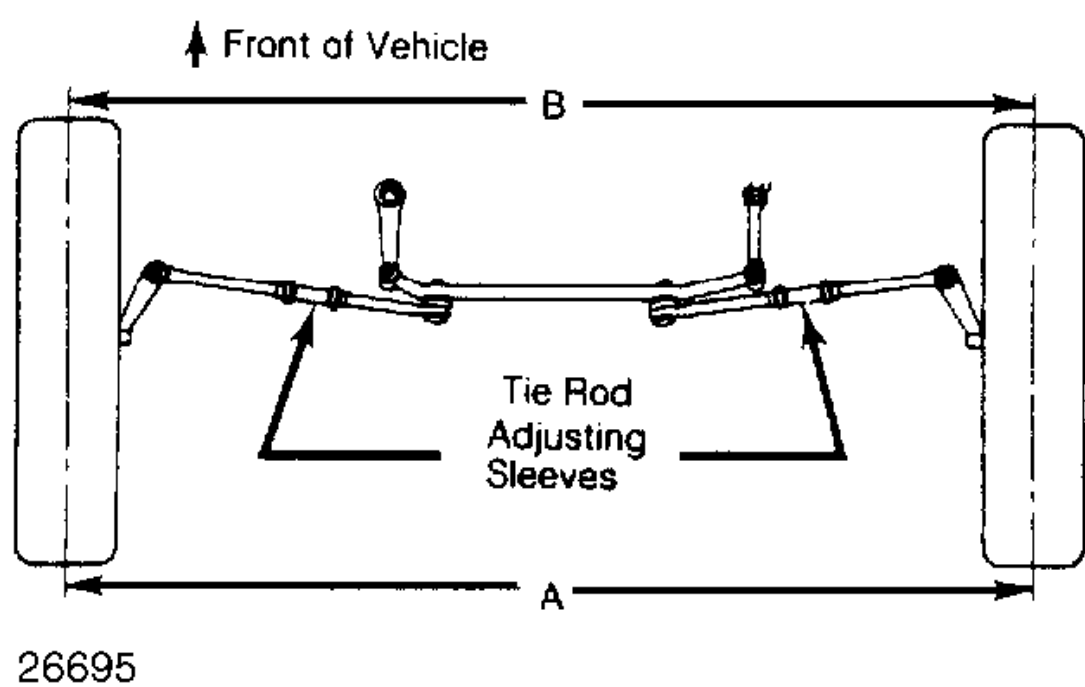
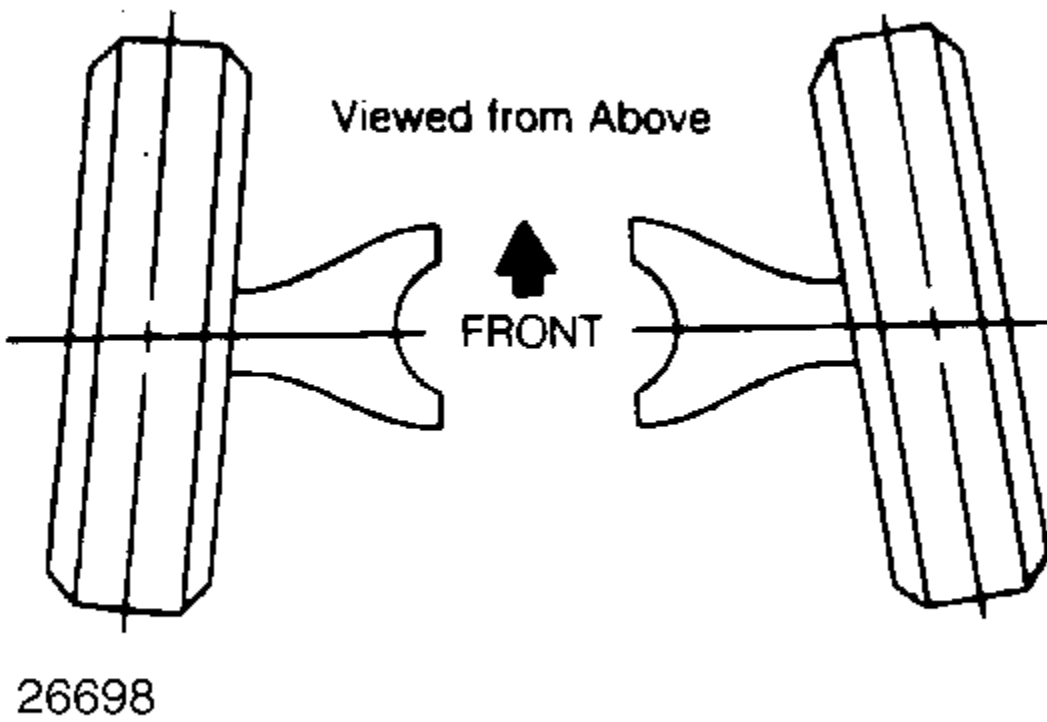

Fig. 2: Adjusting Tie Rod Sleeves (Top View)
Fig. 5: Wheel Toe-In (Dimension A Less Dimension B)
- Steering wheel must be centered with wheels in straight ahead position. If required, shorten one tie rod adjusting sleeve and lengthen opposite sleeve (equal amount of turns). See Fig. 2.
- 1) Measure toe-in with front wheels in straight ahead position and steering wheel centered. To adjust toe-in, loosen clamps and turn adjusting sleeve or adjustable end on right and left tie rods. See Fig. 2 and Fig. 5 .